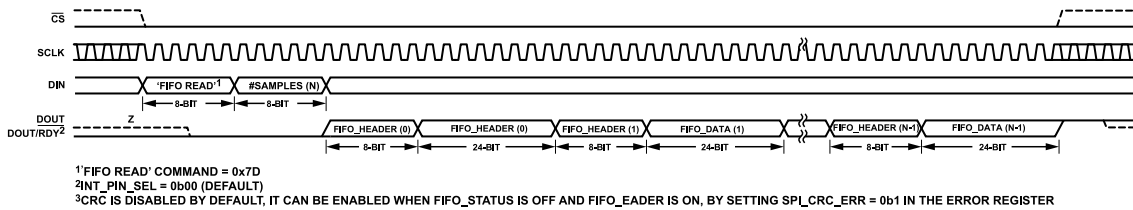
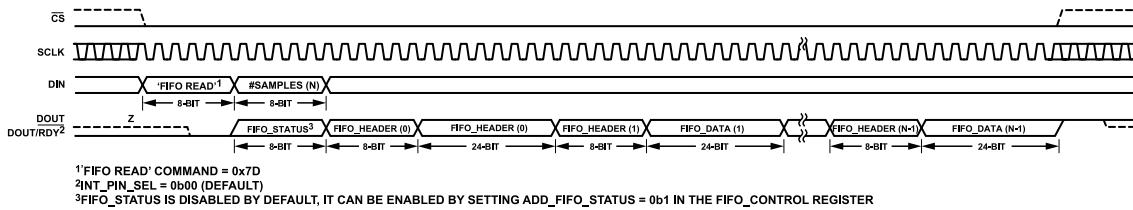

Figure 103. FIFO Readback Default (FIFO\_STATUS Append Off and FIFO\_HEADER Append On)
Figure 104. FIFO Readback (FIFO\_STATUS Append On and FIFO\_HEADER Append On)
By default, the FIFO\_HEADER is enabled and the FIFO\_STATUS append is disabled, so the FIFO readback diagram looks as Figure 103. If the FIFO\_STATUS append is enabled, the FIFO readback diagram looks as Figure 104.
The FIFO\_STATUS register content (see Table 69) can be enabled to be added and read before the FIFO\_DATA and during the # samples (N) byte (see Figure 104), by setting ADD\_FIFO\_STATUS bit to 1 in the FIFO\_CONTROL register (see Table 67). This way, the user can detect an error earlier on and abort the FIFO\_DATA readback.